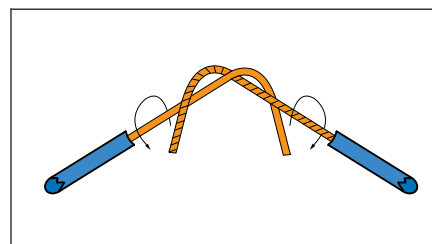

Figure 3 Wrap in Opposite Directions
6. Firmly secure the remaining wire and begin wrap motion in the opposite direction. (See Figure 3.) Upon completion of one wrap on each wire, complete the wrapping process to obtain the three wire wrap minimum requirement. (See Figure 4.)